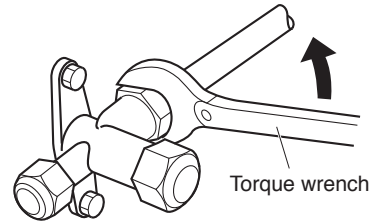

Fig. 35
- To fasten the flare nuts, apply specified torque as Table 8 and Fig. 35.